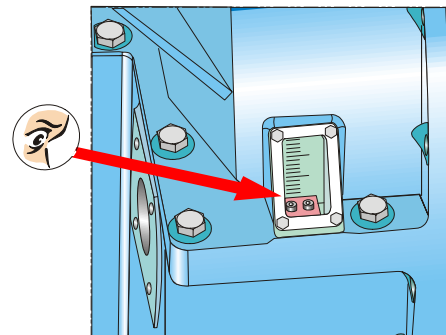

Fig.4 Read flywheel scale from TDC
5. Stop the crankshaft just after cutting the light and mark the flywheel scale indicated by flywheel indicator. (See Fig.4)